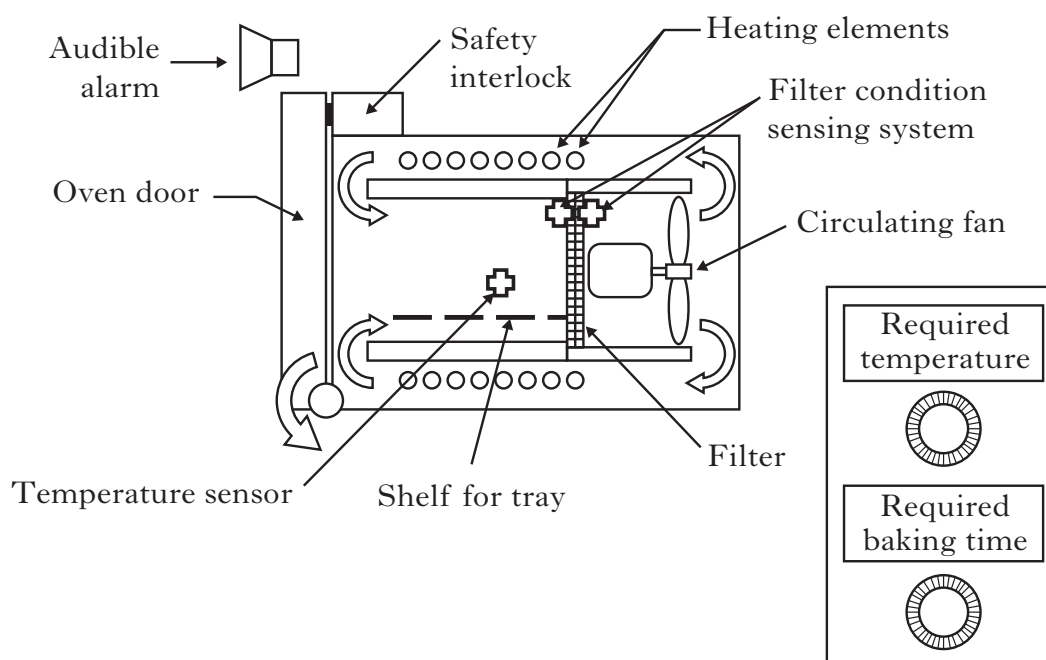

Figure Q11
11. Figure Q11 illustrates the main parts of a fan-assisted shortbread oven with circulating air flow as shown.